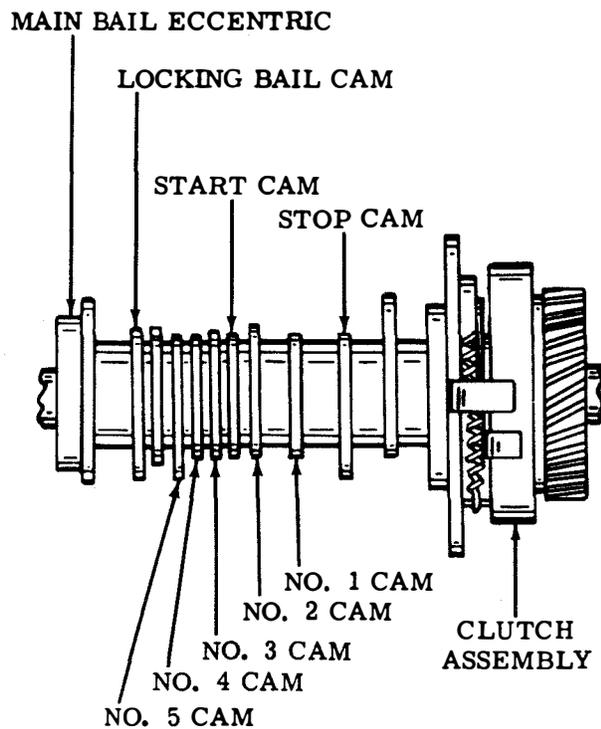
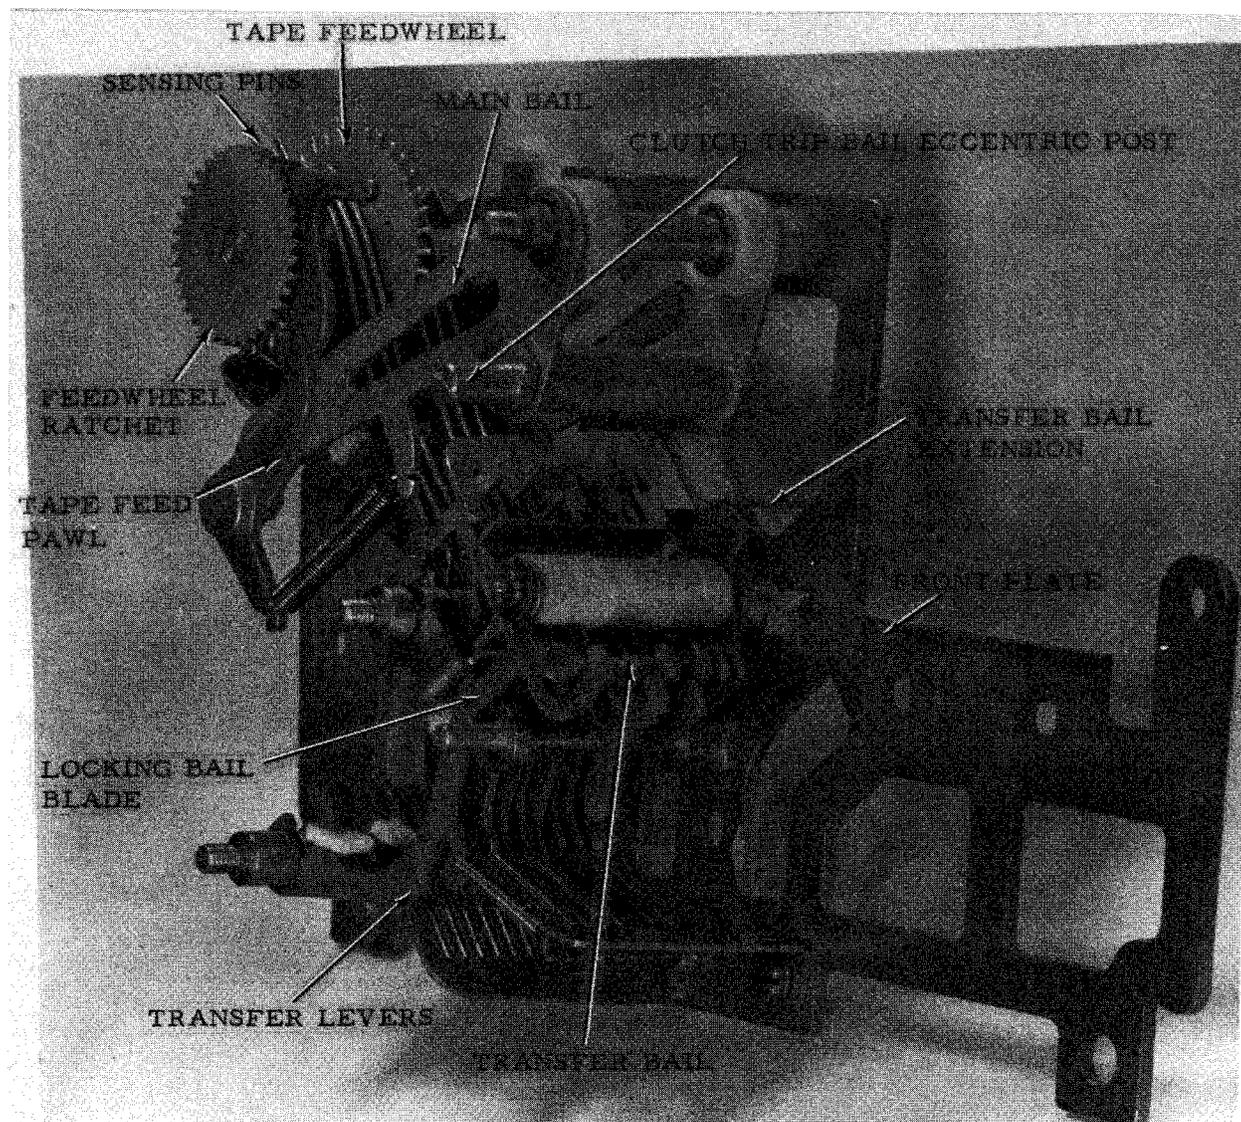

Figure 3-14. Clutch Camshaft Assembly
Figure 3-15. Front Plate Assembly - Rear View
(7) The shaft continues its rotation until the cam for the first pulse (figure 3-14) cams its transfer lever. Depending on the position of the transfer lever finger, upper or lower, the transfer bail (figure 3-15) is rotated if the pulse to be transmitted is not the same as the preceding pulse. If the preceding pulse is the same, no action occurs because the bail has previously been rotated. However, if the preceding pulse is different, the extension on the transfer bail moves the drive link and
(8) The action of the cams for the second, third, fourth, and fifth pulses follow the action of the first pulse in order and repeat the same action as described for the first pulse (figure 3-14).
(9) The cam for the stop pulse follows that of the fifth pulse and the train of action is the same as that of the first pulse except that the stop pulse has no sensing pin, and its transfer lever is blocked. Thus, its lower finger